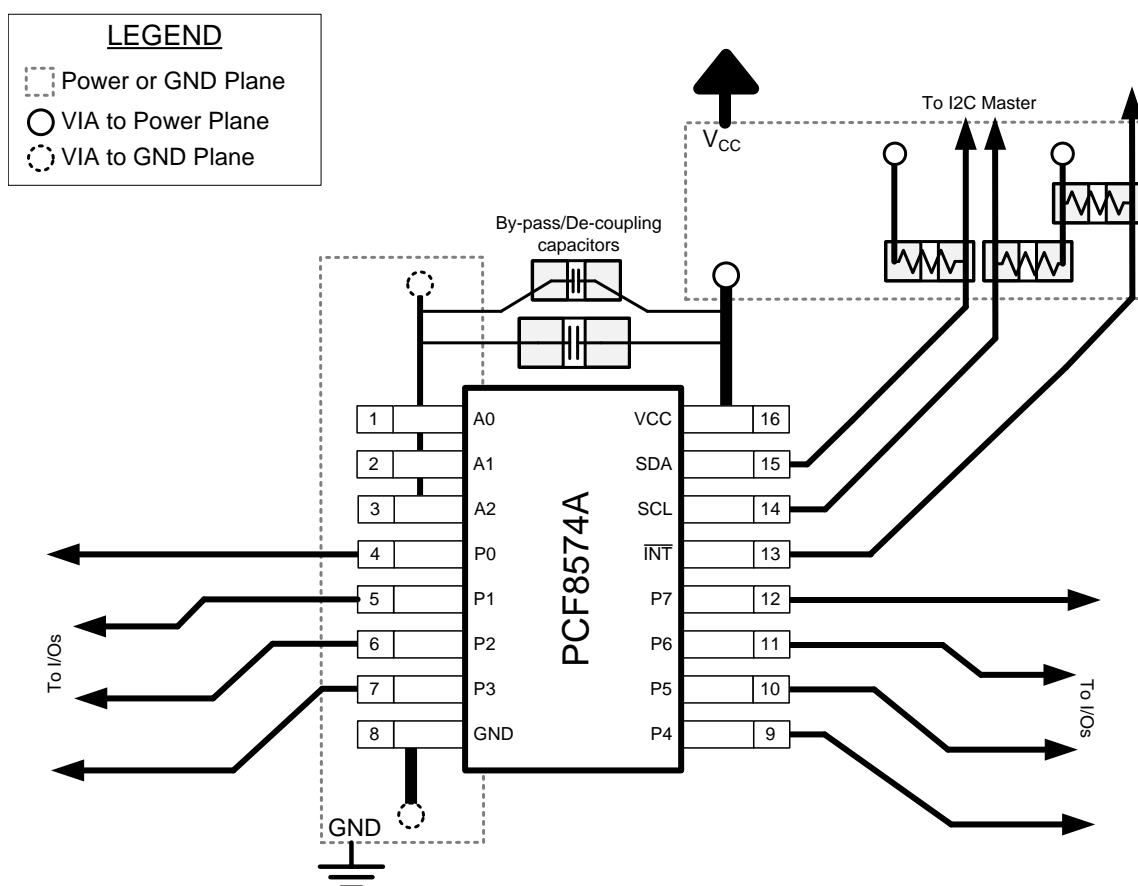

Figure 27. Layout Example for PCF8574A
When the I/Os are used to control LEDs, normally they are connected to V_{CC} through a resistor as shown in Figure 27. For a P-port configured as an input, I_{CC} increases as V_I becomes lower than V_{CC} . The LED is a diode, with threshold voltage V_T , and when a P-port is configured as an input the LED will be off but V_I is a V_T drop below V_{CC} .
In all PCB layouts, it is a best practice to avoid right angles in signal traces, to fan out signal traces away from each other upon leaving the vicinity of an integrated circuit (IC), and to use thicker trace widths to carry higher amounts of current that commonly pass through power and ground traces. By-pass and de-coupling capacitors are commonly used to control the voltage on the V_{CC} pin, using a larger capacitor to provide additional power in the event of a short power supply glitch and a smaller capacitor to filter out high-frequency ripple. These capacitors should be placed as close to the PCF8574A device as possible. These best practices are shown in Figure 27.
For the layout example provided in Figure 27, it would be possible to fabricate a PCB with only 2 layers by using the top layer for signal routing and the bottom layer as a split plane for power (V_{CC}) and ground (GND). However, a 4 layer board is preferable for boards with higher density signal routing. On a 4 layer PCB, it is common to route signals on the top and bottom layer, dedicate one internal layer to a ground plane, and dedicate the other internal layer to a power plane. In a board layout using planes or split planes for power and ground, vias are placed directly next to the surface mount component pad which needs to attach to V_{CC} or GND and the via is connected electrically to the internal layer or the other side of the board. Vias are also used when a signal trace needs to be routed to the opposite side of the board, but this technique is not demonstrated in Figure 27.